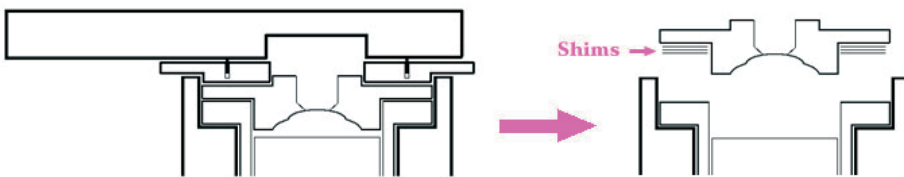

Figure 7.
Step 3: Without bumping the propeller or otherwise disturbing the piston from its position at TDC, use your engine's head wrench to remove the head clamp. Next, gently remove the head button from the liner, making sure not to lose any shims in the process. See figure 7.